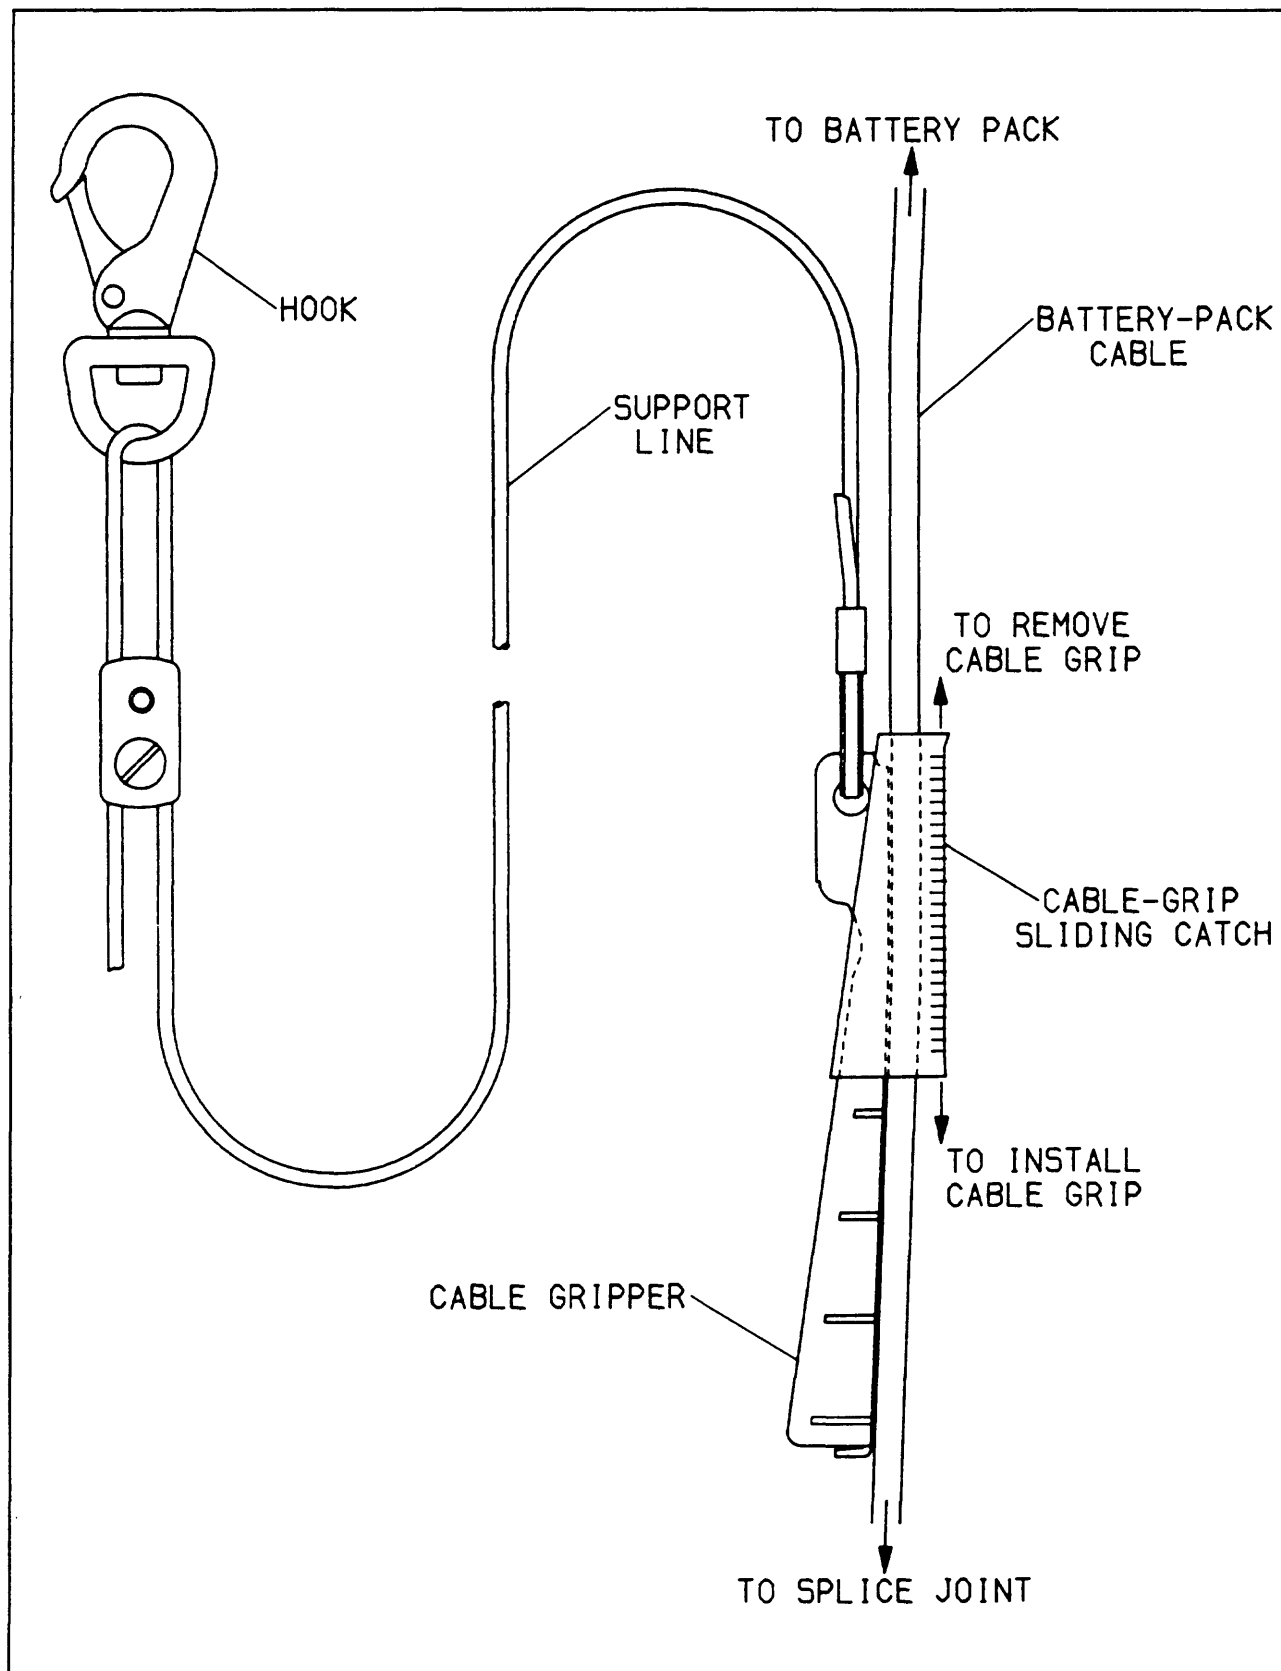

Figure 3.--Attachment of support line to cable.
A 1/8-inch-diameter Kevlar¹ support line, shown in figure 3, is available from the HIF warehouse. The support line is used to suspend the R200 probe at the desired depth. These support lines are available in lengths of 35 and 70 feet. A cable grip on one end of the support line is used to connect the support line to the battery-pack cable. The other end of the support line is then attached to a hanger bar or some other fixed support at the top of the well to hold the R200 probe at the proper depth. The support line can be permanently marked or graduated for ease of calibration and installation of the R200. The cable grip on the support line is attached to the battery-pack cable at a premeasured position, which will allow markings on the support line to be used for positioning the probe at the recording position and at the 10-, 50-, and 90-percent calibration points.
The cable grip is attached to the battery-pack cable as follows (Refer to figure 3):
- the part of the cable grip labeled "cable gripper" (in figure 3) is permanently attached to the support line;